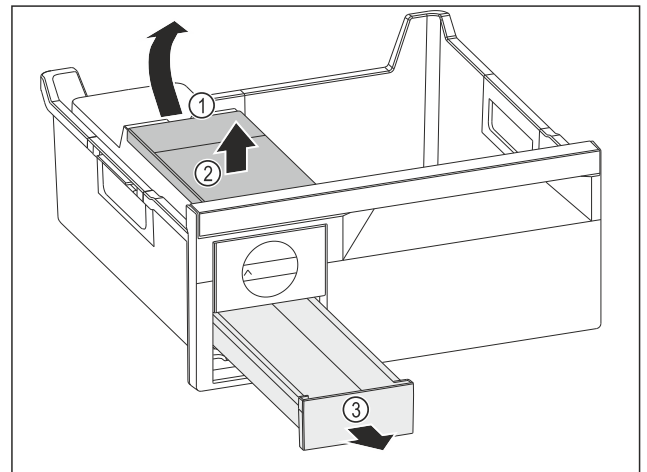

Fig. 77
- ▶ Removing the water tank: Lift the water tank by the recess Fig. 77 (1).
- ▶ Remove the water tank Fig. 77 (2) upwards.
- ▶ Remove the ice cube drawer Fig. 77 (3) to the front.